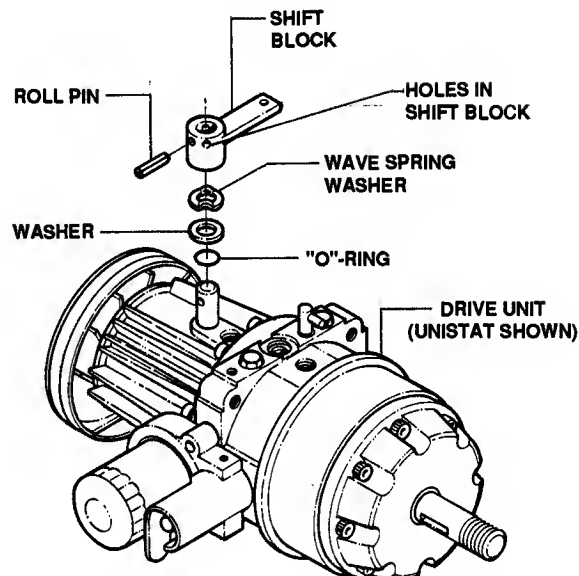

FIGURE 4.11
2. Drive out roll pin. See Figure 4.11.